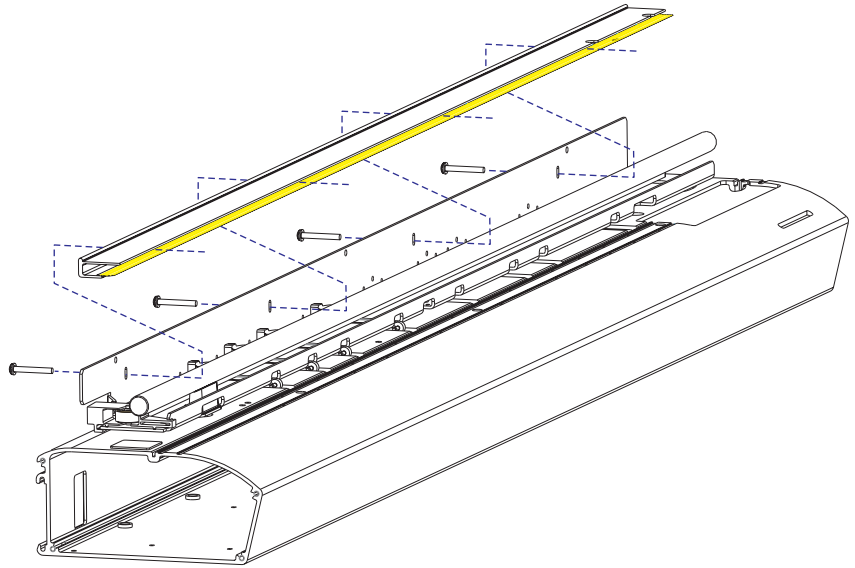
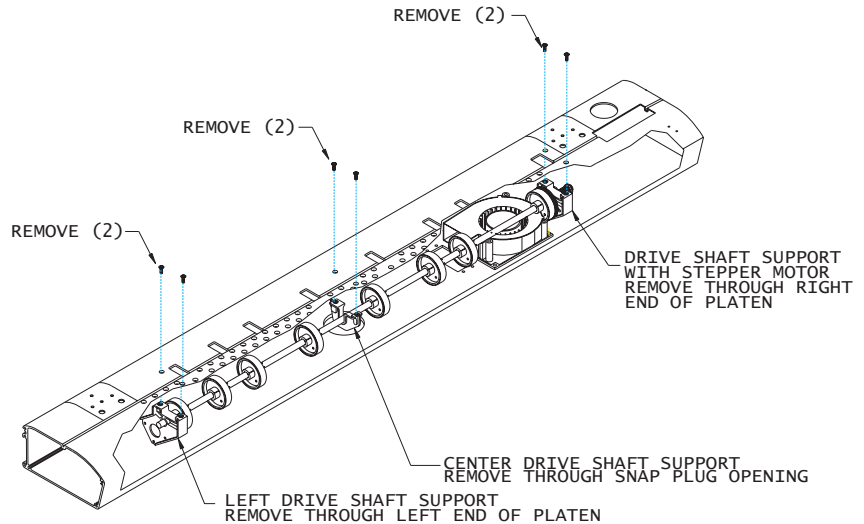
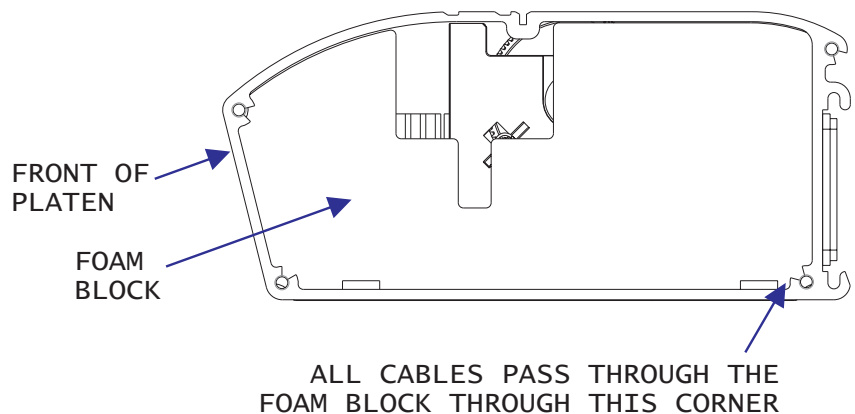

Figure 5-20. Stabilizer Bracket Removal.
Figure 5-22. Removal of Lower Drive Shaft Screws.
Figure 5-23. Removing the Foam Block.
5. Use a 7/64 Hex Nut Driver to remove the three screws from the back of the Y-Arm which hold the Stabilizer Bracket on the Y-Arm and remove the Stabilizer Bracket. See Figure 5-20.
The new Stabilizer Bracket will already have the new Encoder Strip as well as new tapes for the Trailing Cable attached to it. Refer to Figure 5-20 during this procedure.
Refer to Figure 5-20 and Figure 5-22 during this procedure.
6. Using a #1 6" or 8" Phillips screwdriver, remove the 4 black flat-head screws which hold the left and middle Drive Shaft Supports in place. There are two screws in the center of the Platen, and two screws approximately three inches to the left of the left brass bracket. See Figure 5-22.
8. Remove the Foam Block which is beside the Stepper Motor Assembly by putting your index finger into the opening in the top of the Foam Block and pulling it towards you. See Figure 5-23.
Refer as needed to Figure 5-20, Figure 5-22 and Figure 5-23 during this procedure.
5. Insert the middle Lower Drive Shaft Support through the Snap Plug opening (see Figure 5-22), align it with the screw holes, and insert the screws. Using a #2 6" or 8" Phillips screwdriver, tighten them slightly.
6. Insert the left Lower Drive Shaft Support in the left end of the Platen so that the shaft goes through the brass bushing in the support. The support should be oriented in the same manner as the support which is by the Stepper Motor. See Figure 5-22. Align it with the screw holes, and insert the screws. Using a #2 6" or 8" Phillips screwdriver, tighten them slightly.
8. Insert the Foam Block. Make sure that the Power Supply Cable is in the opening in the back of the Foam Block. Also make sure that the Stepper Motor Assembly and Fan Assembly cables are also at the back corner of the Foam Block. See Figure 5-23. Push the Foam Block in until it is flush against the Stepper Motor Assembly. Make sure it is not tilted at an angle.
6. Route all the wires from the Servo Motor Assembly, Stepper Motor Assembly, Fan Assembly, and Power Supply through the bottom opening on the Right Side Plate. See Figure 5-23. Secure the Right Side Plate to the Platen with four screws. See Figure 5-3.